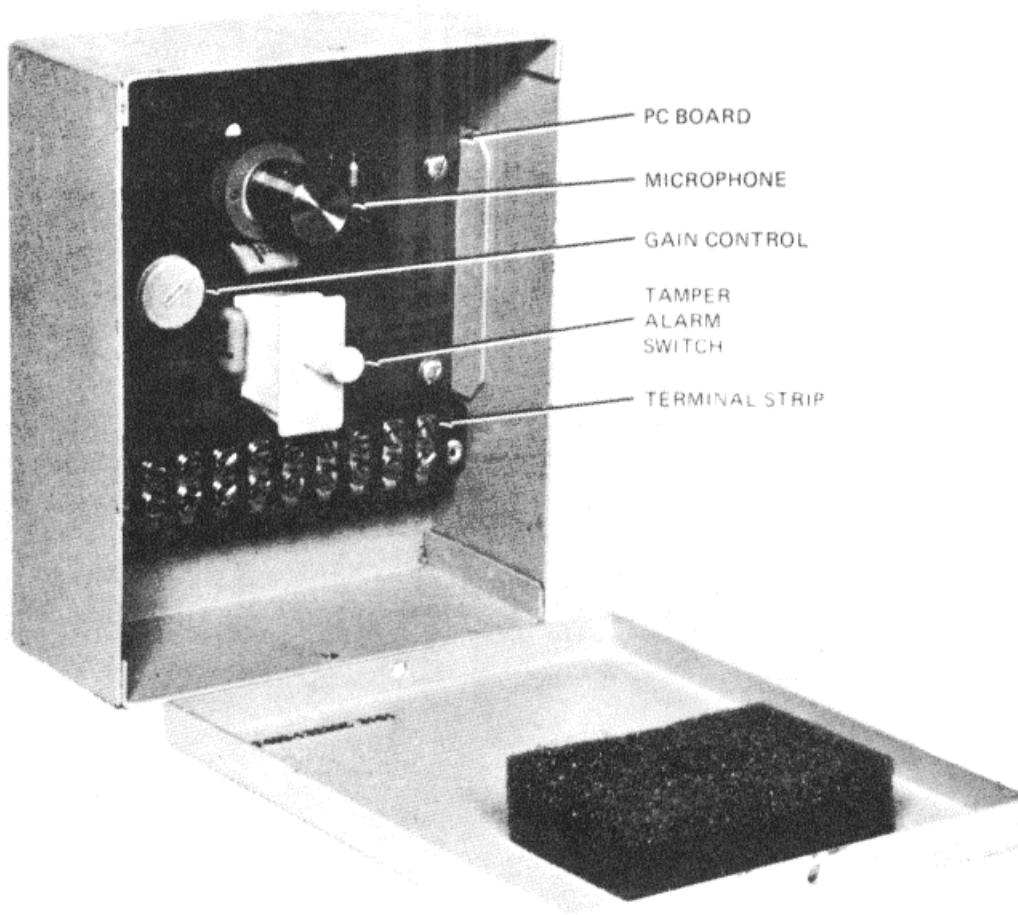

Figure 1-2. Receiver with Cover Removed
- c. The Receiver (fig. 1-2) consists of a PC board mounted inside a steel housing. Mounted on the PC board are the gain control, TAS, terminal strip for wire connecting microphone, and all electronic components. The housing has a removable cover and access holes where interconnecting wiring is brought in through conduit.